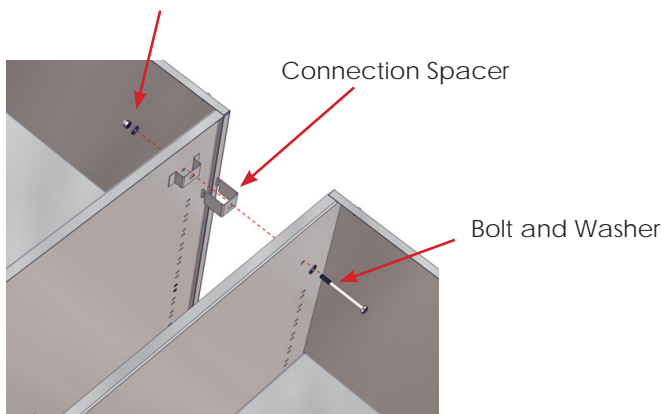

Fig. 29: Attaching the Banked Cabinets/Rear Connections
6. Place two Connection Spacers on the connection points at the rear of the cabinet, one on the top and one on the bottom (Fig. 29).
8. From the inside of one of the cabinets, insert the 1/4" bolt and one washer through one of the top rear connection holes until it protrudes from the other cabinet. Secure with the washer and acorn nut. Repeat with the bottom rear connection hole (Fig. 29).